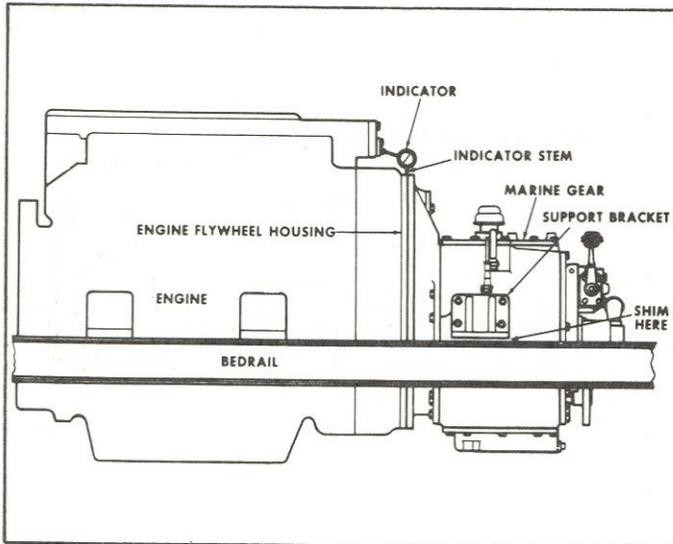

Figure 41. Alignment of Engine and Marine Gear.
B. Alignment (fig. 41). Install the support brackets on the side mounting pads of the marine gear. Install the isolator on the engine flywheel. Bolt an indicator to the engine block and set the indicator stem on the engine flywheel housing. Set the indicator gauge at zero. Lift the marine gear with a hoist, or other suitable means, and place the unit in position against the engine flywheel housing. Guide the input shaft spline into the isolator. Secure the housing adapter of the marine gear to the engine flywheel housing with suitable fasteners. Use a feeler gauge between each support bracket and engine bedrail. Add shims between the brackets and bedrails to equal the feeler gauge readings. Carefully release the lifting force on the marine gear. The indicator gauge must remain steady at the zero mark. If the reading moves from zero, lift the marine gear and insert additional shims. Continue this procedure until the marine gear is completely at rest on the bedrails and the gauge maintains a steady zero reading. After obtaining the correct zero reading, secure the support brackets to the engine bedrails. Gauge must remain at zero after bolting to bedrails.